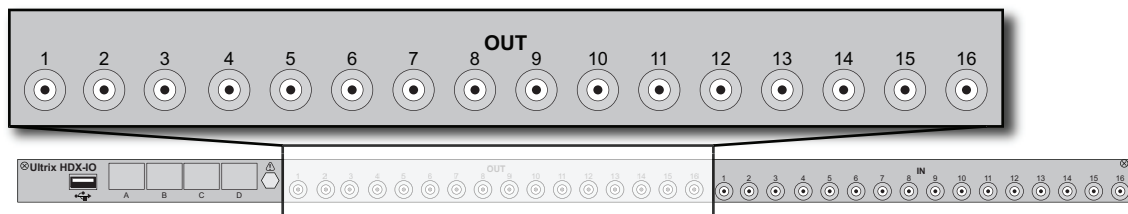

Figure 44 Ultrix Rear Panel — SDI Output BNC Mapping for an ULTRIX-HDX-IO Blade
**Figure 44** outlines the output cabling designations for an ULTRIX-HDX-IO blade. The output BNCs are located on the left side of each blade.